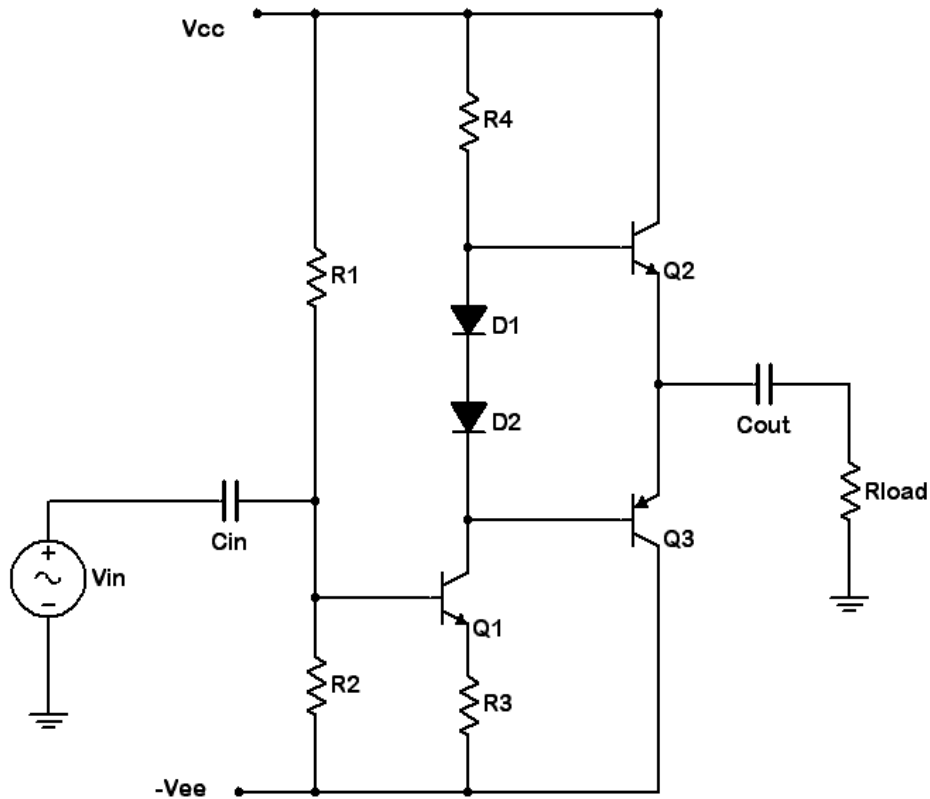

Figure 1
1. Consider the circuit of Figure 1 using $V_{cc} = 6$ volts, $V_{ee} = -6$ volts, $R_1 = 6.8$ k Ω , $R_4 = 1$ k Ω , $R_3 = 100$ Ω , $R_{load} = 100$ Ω , $C_{in} = 1$ μ F and $C_{out} = 100$ μ F. R_2 is an adjustable resistance (pot or decade box). For proper bias, the emitters of the output transistors should be at 0 volts DC. For this to be true there must be a voltage of $V_{cc} - V_{be}$, or approximately 5.3 volts, across R_4 . Ignoring base currents, this establishes the I_{CQ} of transistor 1 which in turn creates a potential drop across R_3 . From this the voltage across R_2 may be determined. Knowing the value of R_1 and the total supply presented, Ohm's law or the voltage divider rule may be used to compute the required setting for R_2 . Compute the required value for R_2 and record it in Table 1.
4. Build the circuit of Figure 1 using $V_{cc} = 6$ volts, $V_{ee} = -6$ volts, $R_1 = 6.8$ k Ω , $R_4 = 1$ k Ω , $R_3 = 100\Omega$, $R_{load} = 100 \Omega$, $C_{in} = 1 \mu F$ and $C_{out} = 100 \mu F$. Set the pot or decade box (R_2) to the value calculated in Table 1. Disconnect the signal source and inspect the DC voltage at the load. Adjust R_2 until this voltage goes to 0 volts. Record the resulting value of R_2 in Table 1.